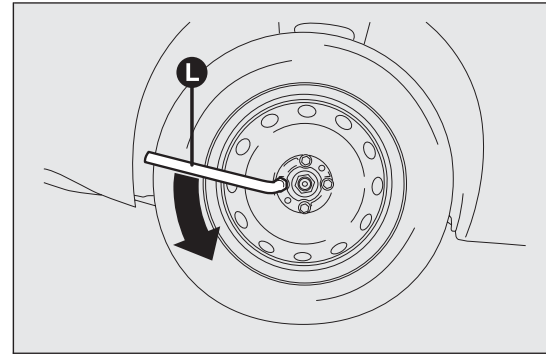

fig. 144
- ❑ loosen the bolts of the wheel to be replaced by about one turn with the wrench provided L fig. 144; if you have alloy rims, rock the car to make it easier to separate the rim from the wheel hub;